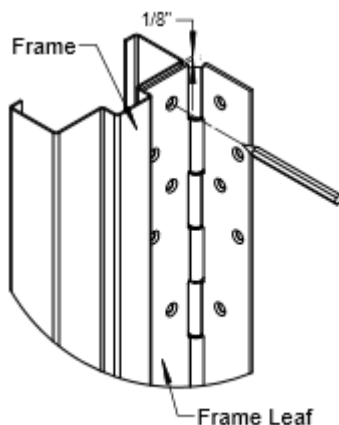

Fig. 1
1. Place the hinge frame leaf on the frame. Position the top of the hinge 1/8" maximum below the header as shown (Fig.1). Place the hinge firmly against the rabbet of the frame.